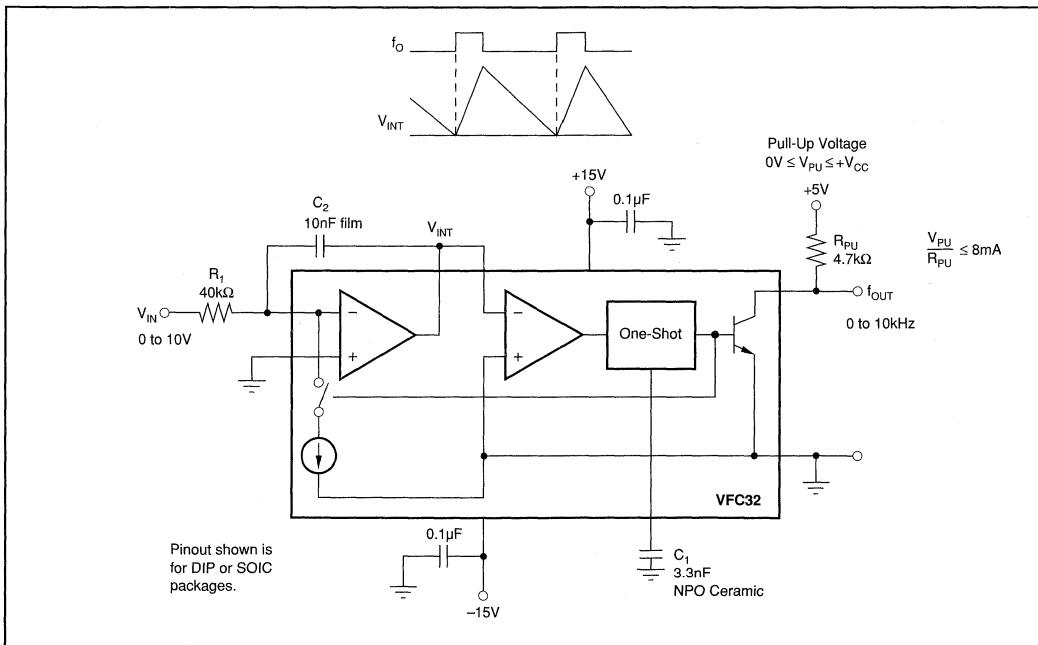
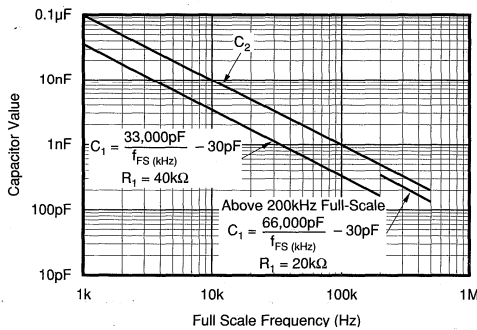

FIGURE 1. Voltage-to-Frequency Converter Circuit.
FIGURE 2. Capacitor Value Selection.
NOTES: (1) A 25% duty cycle (0.25mA input current) is recommended for best linearity. (2) Adjustable to zero. See Offset and Gain Adjustment section. (3) Linearity error is specified at any operating frequency from the straight line intersecting 90% of full scale frequency and 0.1% of full scale frequency. See Discussion of Specifications section. Above 200kHz, it is recommended all grades be operated below $+85^\circ\text{C}$. (4) $\pm 0.015\%$ of FSR for negative inputs shown in Figure 5. Positive inputs are shown in Figure 1. (5) FSR = Full Scale Range (corresponds to full scale frequency and full scale input voltage). (6) Exclusive of external components' drift. (7) Positive drift is defined to be increasing frequency with increasing temperature. (8) For operations above 200kHz up to 500kHz, see Discussion of Specifications and Installation and Operation sections. (9) One pulse of new frequency plus 1 μs .
Figure 1 shows the basic connection diagram for frequency-to-voltage conversion. R_1 sets the input voltage range. For a 10V full-scale input, a 40k Ω input resistor is recommended. Other input voltage ranges can be achieved by changing the value of R_1 .
The full-scale output frequency is determined by C_1 . Values shown in Figure 1 are for a full-scale output frequency of 10kHz. Values for other full-scale frequencies can be read from Figure 2. Any variation in C_1 —tolerance, temperature drift, aging—directly affect the output frequency. Ceramic NPO or silver-mica types are a good choice.
For full-scale frequencies above 200kHz, use larger capacitor values as indicated in Figure 2, with $R_1 = 20\text{k}\Omega$.
The value of the integrating capacitor, C_2 , does not directly influence the output frequency, but its value must be chosen within certain bounds. Values chosen from Figure 2 produce
approximately 2.5Vp-p integrator voltage waveform. If C_2 's value is made too low, the integrator output voltage can exceed its linear output swing, resulting in a nonlinear response. Using C_2 values larger than shown in Figure 2 is acceptable.
The value of C_1 is chosen from Figure 2 according to the full-scale input frequency. C_2 smooths the output voltage waveform. Larger values of C_2 reduce the ripple in the output voltage. Smaller values of C_2 allow the output voltage to settle faster in response to a change in input frequency. Resistor R_1 can be trimmed to achieve the desired output voltage at the full-scale input frequency.